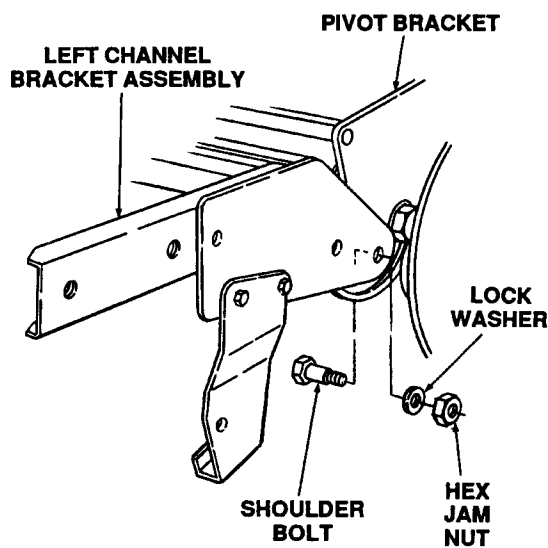

Figure 7-50. Install Left Channel Bracket Assembly.
1. Assemble the left channel bracket assembly (5, Fig. 7-45) to the left side of the tiller pivot bracket as shown in Figure 7-50. Secure the brackets together with the shoulder bolt (29), lock washer (30) and hex jam nut (31).